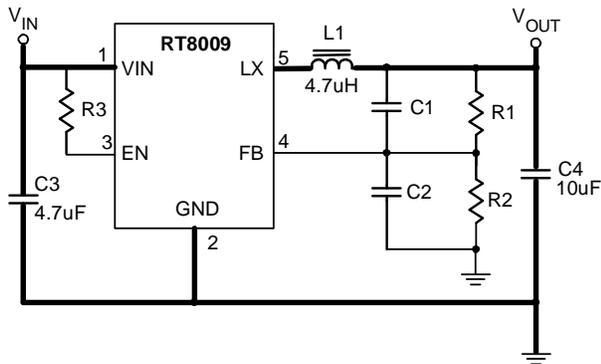

Figure 6. EVB Schematic
- › For the main current paths as indicated in bold lines in Figure 6 keep their traces short and wide.